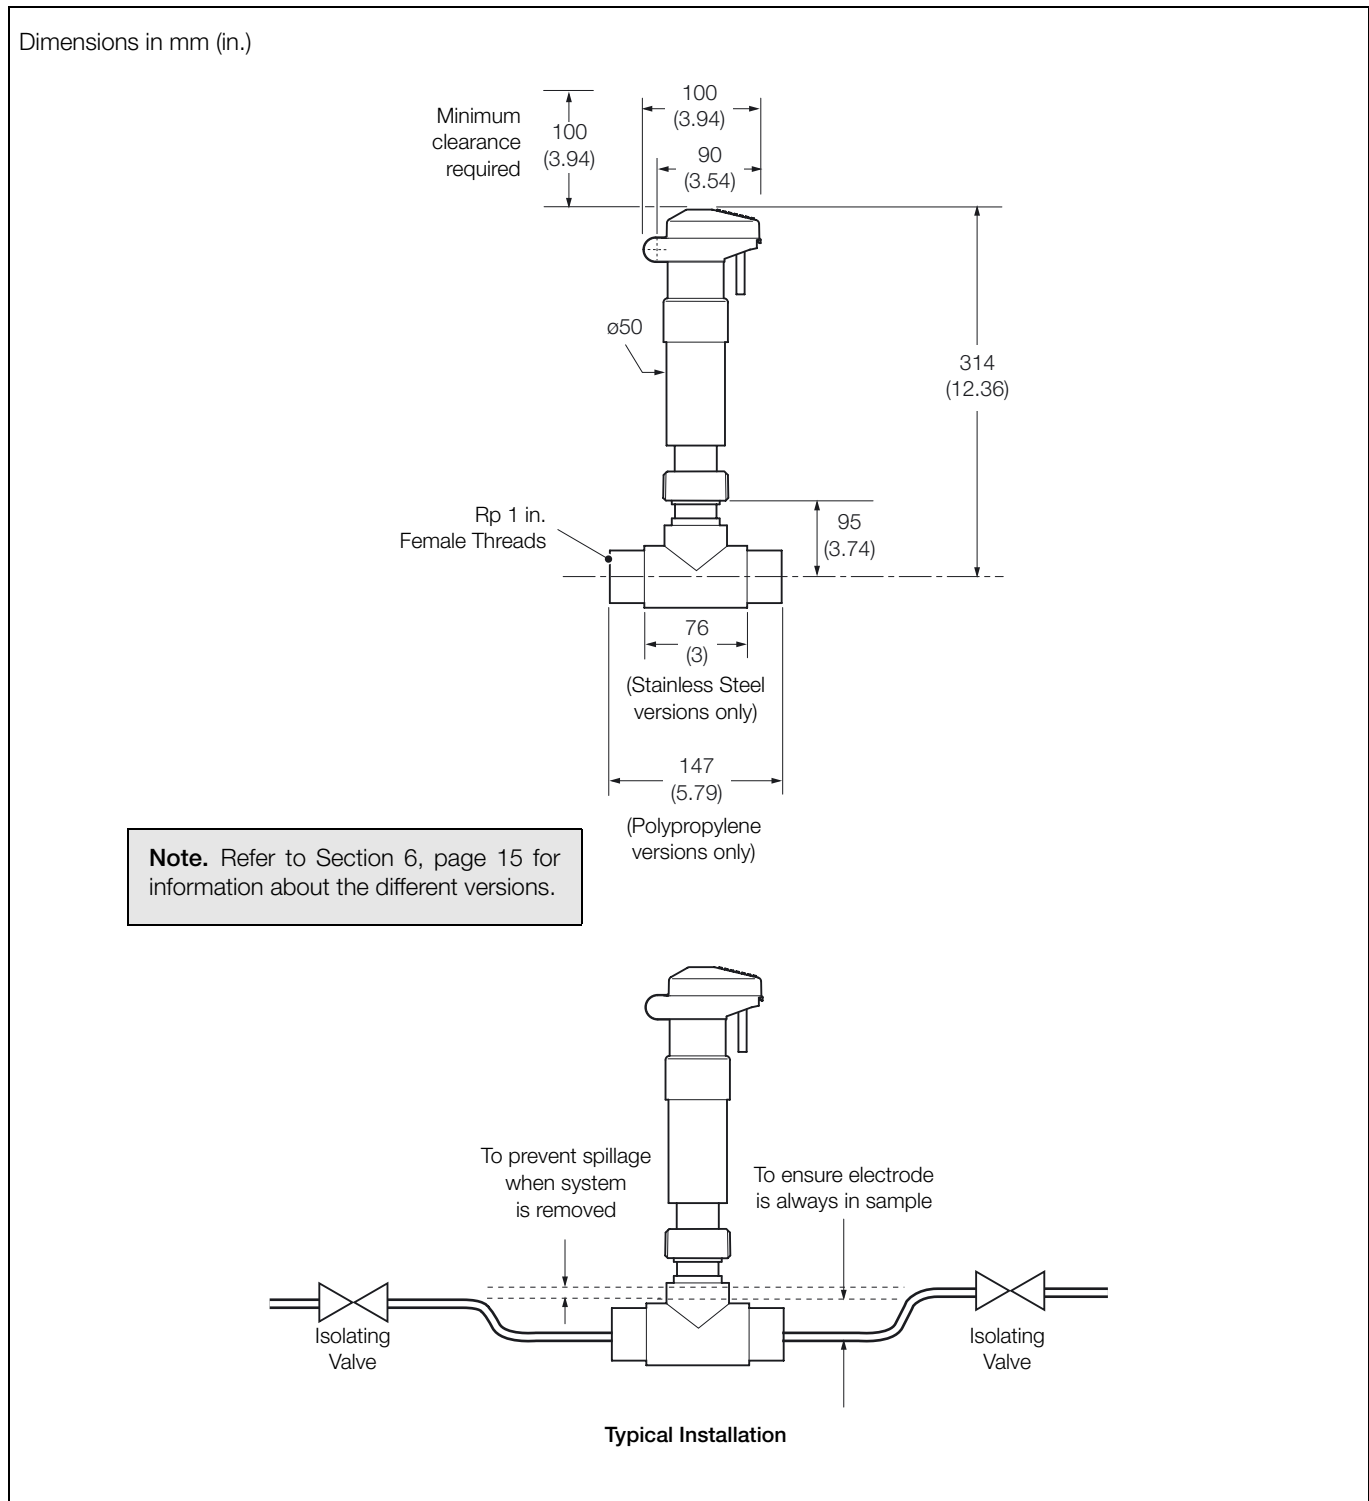

Fig. 2.2 Model AP202 Inline System
**2.1.2 Model AP202 Inline System – Fig. 2.2**